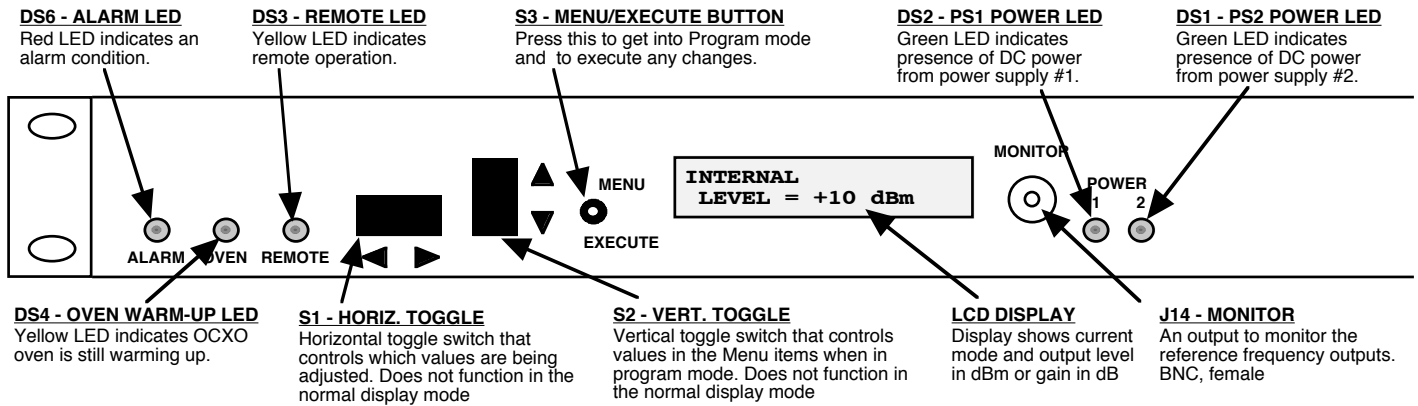

FIGURE 2.2 2099-1008 Front Panel Controls and Indicators
** FAULT occurs when in EXT LOCK AUTO mode and the external reference fails. This status can be reset remotely using the command in Table 1.2 or manually by pressing Menu/Execute followed by pressing up once or down once on the vertical toggle switch on the front panel (see Figure 2.2).
2. Be sure DS1 and DS2 LEDs (green, POWER) are on (Figure 2.2).
5. (option -E only) Choose one of the five (5) modes (Internal, Ext Pass, Ext Pass Auto, Ext Lock, or Ext Lock Auto) in which to operate the unit.
8. Monitor reference output signal with J14 (MONITOR) (Figure 2.2).
Alarm indications appear on the LED (see Figure 2.2).